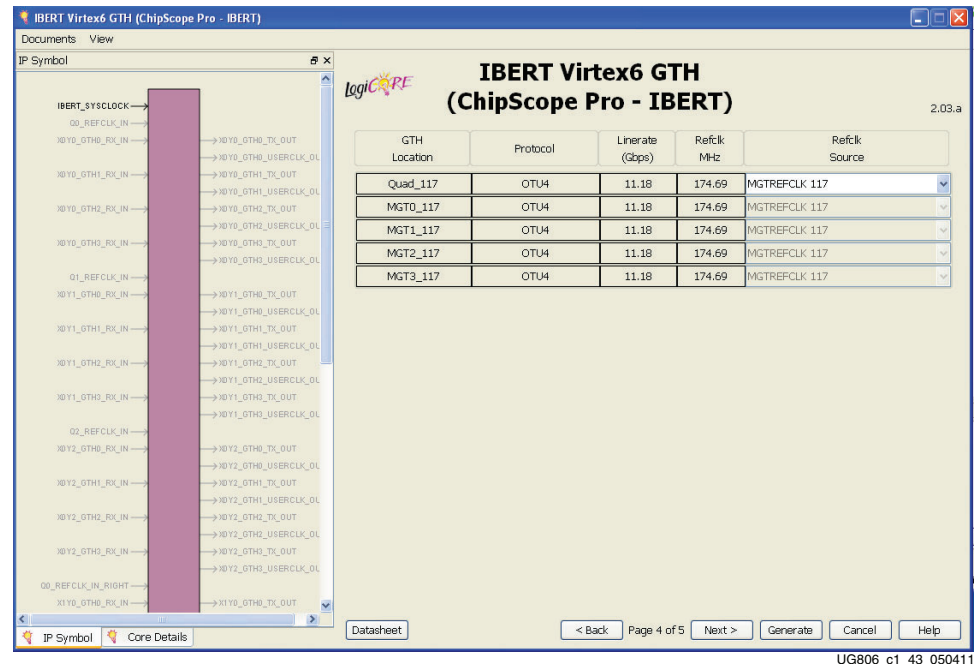

Figure 1-43: CORE Generator - IBERT GTH Customization - Page 4
12. Enter the information shown here and in Figure 1-43, then click **Next**: